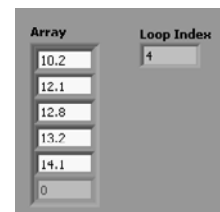

Figure 4.49
- If you wire an array control to an edge of a For Loop, the loop will cycle once for every element in the array (this is termed *auto-indexing*). For example, in Figure 4.49, Array contains five elements. When Array is connected to the For Loop, the loop will cycle five times and the index will take on values from 0 to 4.